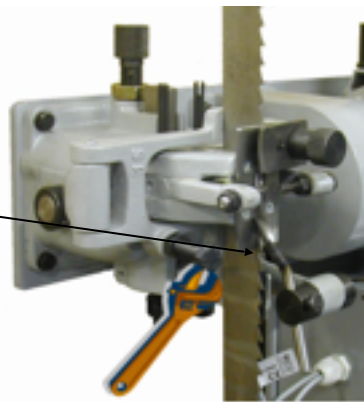

figure 10
- Adjust the height of the blade sliding support (screw **O**, fig. 7, page 10), so that only the tooth profile protrudes entirely from the jaws of the vice. Close the plate **U** (fig. 7, page 10) on the teeth of the blade. Pressing the blade against the support, the plate guarantees a right operation. At the same time the blade can slide well (fig. 10).